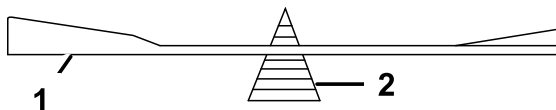

Figure 58
- Check the balance of the blade by putting it on a blade balancer (Figure 58).